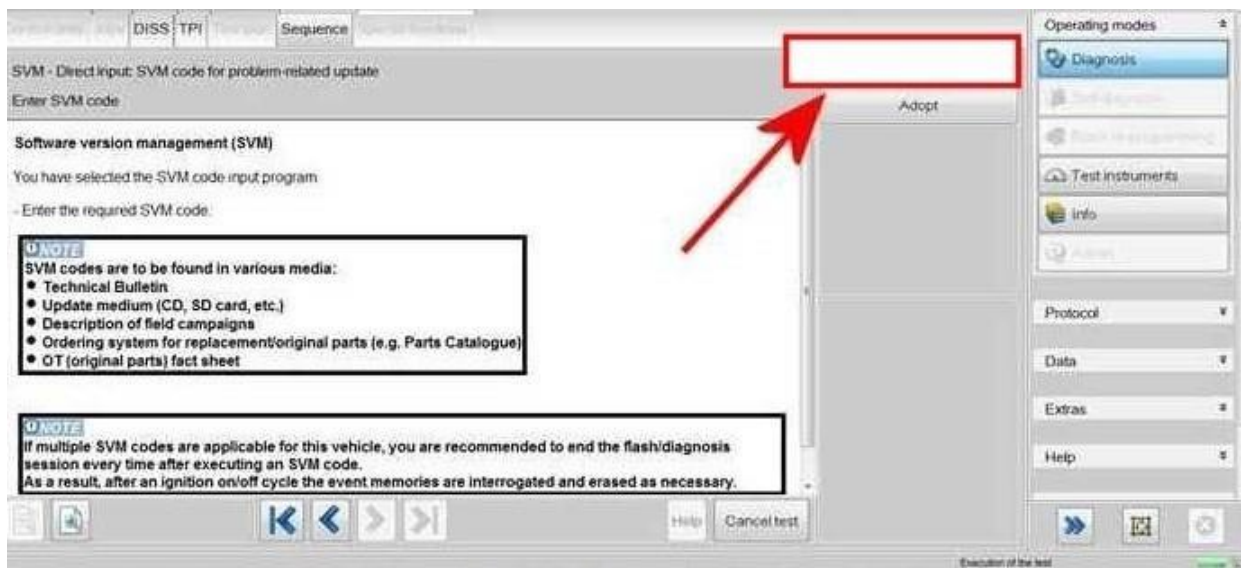

Figure 6
10. Referring to Figure 6 - Enter the SVM code 370WAD01